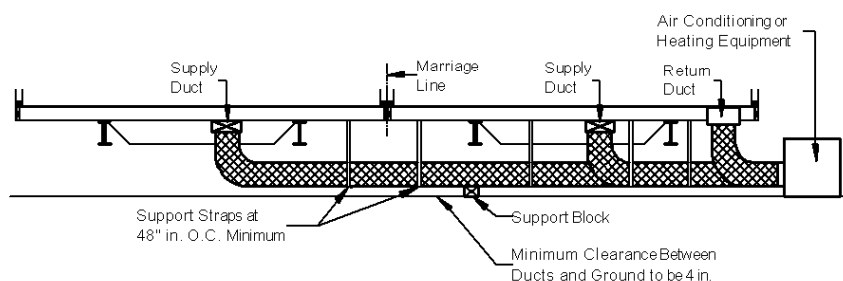

Figure 98. Ducts connecting exterior heating and/or cooling equipment to the home
2. **Install ducts.** Install the appropriate supply and return ducts (not provided) between the remote unit and the home (**Figure 98**), making connections according to the instructions for crossover ducts in **Crossover Connections** (p. 57).
Prepare the whole-house ventilation system according to the ventilation system manufacturer's instructions. Confirm that any fresh air intake ducts extend to the exterior and do not draw air from the crawlspace under the home. Do not allow any fresh air ventilation intake ducts to become kinked or restricted, forming a trap (Figure 98).